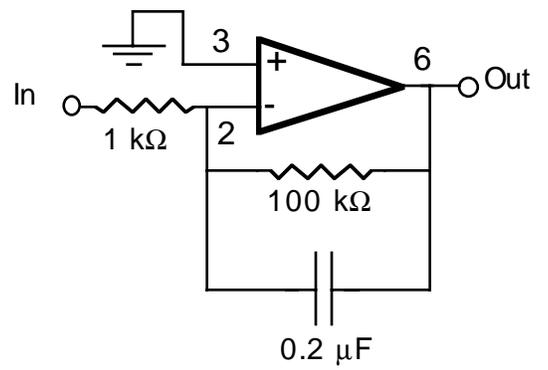

Figure 6
6) Integrator (Fig. 6). In this circuit the capacitor and the resistor are interchanged and the signal is integrated instead of differentiated. In addition, a 100 k Ω resistor has been added to prevent any input offset voltage that might be present from driving the output of the op-amp to one of its extreme limits. Apply the same signal as in part (1) to the input. *What is the signal at*